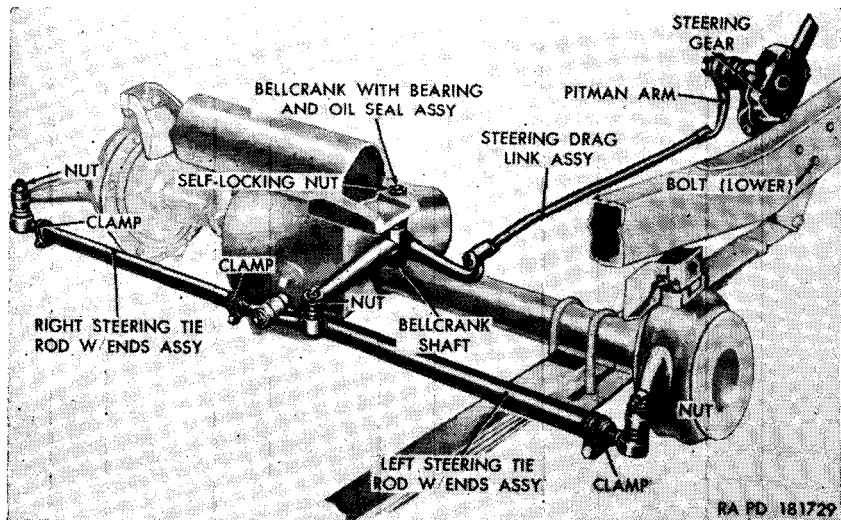

Figure 107. Steering system linkage.
*a. Description.* The steering system (fig. 107) comprises the steering gear assembly, pitman arm, steering drag link assembly, steering bellcrank assembly, and two steering tie rod with
(figs. 107, 108, and 109)
- (1) Remove the cotter pin from the axle end of the drag link assembly (fig. 107). Unscrew, but do not remove, the ball seat axle end adjusting plug. Lift the drag link assembly off the ball of the bellcrank.
- (2) Remove the cotter pin from the gear end of the drag link assembly (fig. 107). Unscrew, but do not remove,